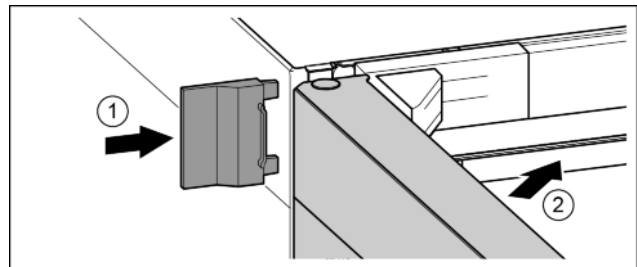

Fig. 18
- ▶ Slide on the external cover. Fig. 18 (1)
- ▶ Close the upper door. Fig. 18 (2)